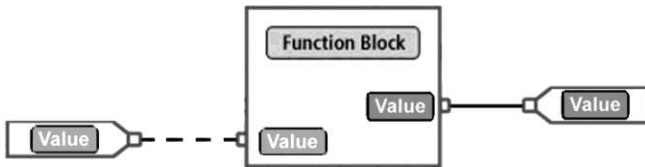

Figure 15-54 FBD for question 3.
- 3-1. For the FBD of Figure 15-54, the solid line indicates 3-1. _____